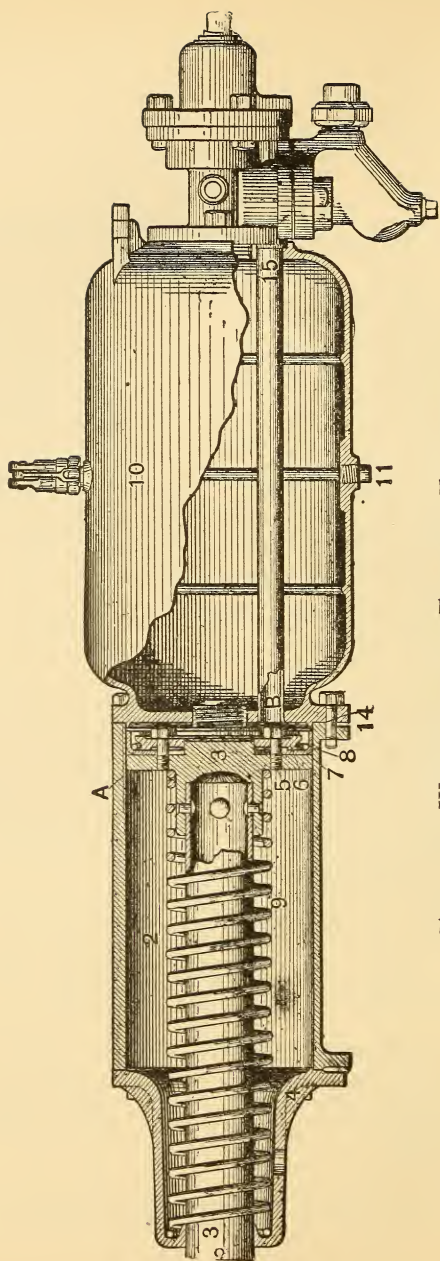

FIG. 11.—WESTINGHOUSE FREIGHT EQUIPMENT.
A. 3 (Fig. 11) is the piston sleeve and head, 9 the release spring, 4 the front cylinder head, 2 the cylinder body, *A* the leakage groove, 7 the packing leather, 8 the expander ring, 6 the follower plate which holds the packing leather 7 to its place, *B* the pipe connecting the triple valve and brake cylinder, and 15 the gasket which makes a tight joint between the auxiliary, triple, and pipe *B* leading to the brake cylinder.
Q. Explain the use of the release spring 9 (Fig. 11).
Q. What enters the sleeve 3 (Fig. 11)?
Q. Fig. 11 shows a standard equipment for freight cars; are they ever furnished in any other form?
A. Yes; the space limitation on some cars forbids the use of the combined equipment illustrated in Fig. 11. In such cases, what is known as the detached equipment is used, and the brake cylinder and auxiliary reservoir are connected by a suitable pipe.